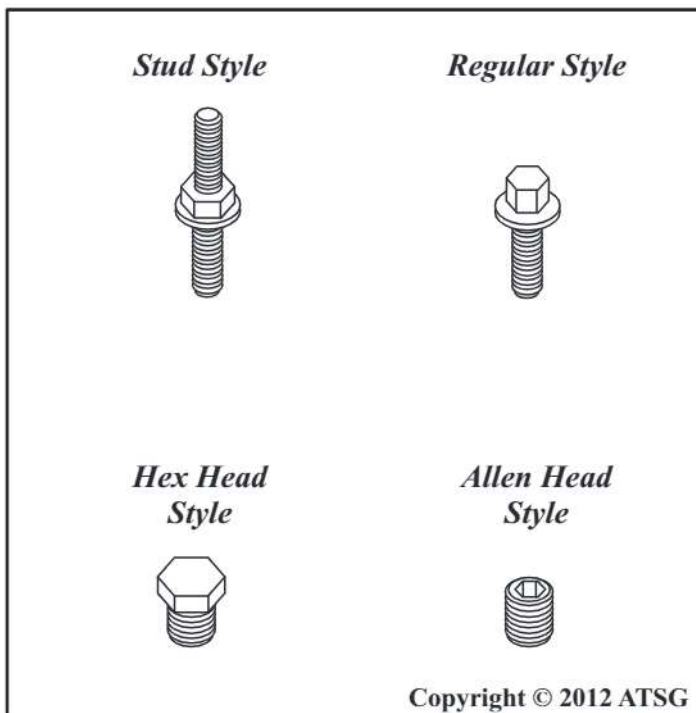

Figure 46
14. Before removing valve body side cover bolts check the style of line pressure plug in the unit you are working on, as shown in Figure 46.
Note: If your unit has the Hex-Head style line pressure plug it must be removed to remove the side cover. If your unit has Allen-Head style, it can be left in place (See Figure 46).
Note: Record the locations of the 3 stud style retaining bolts (See Figure 46).